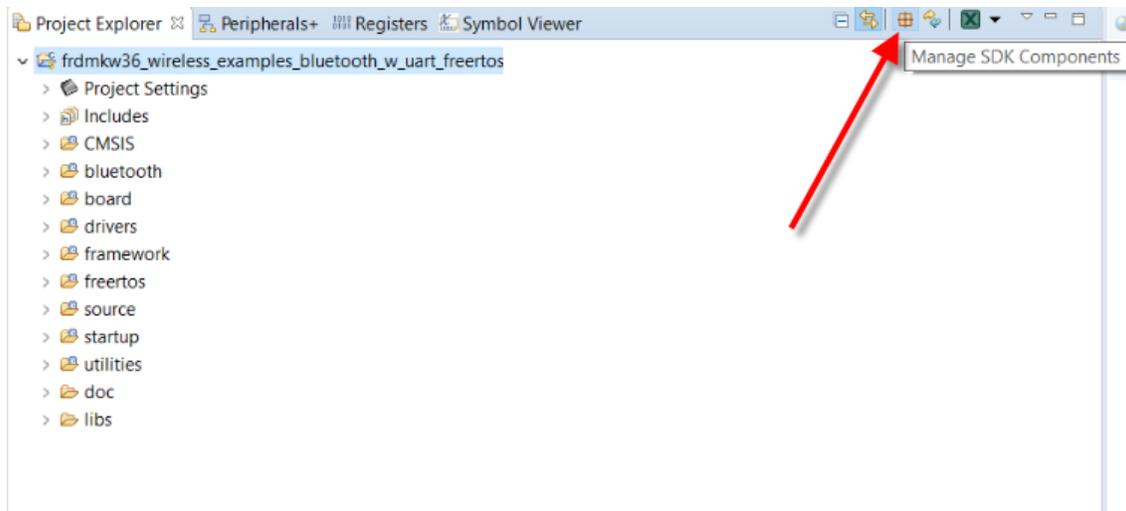

Figure 9. Manage SDK Components
1. Go to “Manage SDK Components” as in Figure 9.